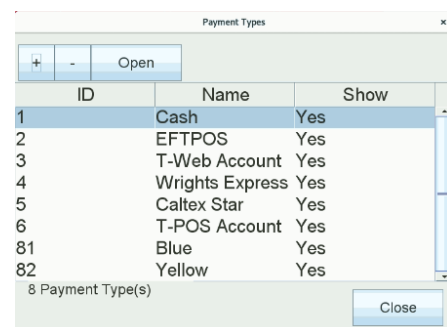

Figure 30: List of All Payment Types
2. Press **+** to add a new payment type, **-** to remove a custom payment type or **Open** to edit an existing payment type. (see Figure 30)